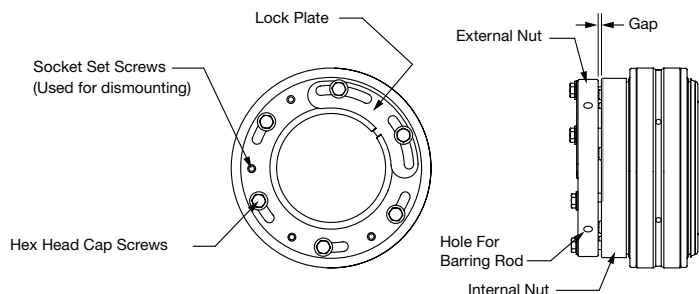

Figure 1 - Bearing with dual nut as shipped with gap.
The locknut assembly is comprised of an external nut and internal nut. The bearing is shipped such that there is a gap between the two nuts. The two nuts must maintain this gap prior to mounting the bearing. The dual nut configuration prior to installation is shown in Figure 1. Note the position of the external nut slots relative to the hex cap screws.
7. Remove two hex head cap screws nearest to the slot in the adapter. A slight gap may appear between the two nuts when these two hex head cap screws are removed. This is a normal occurrence and the gap will close up when the two hex head cap screws are reinstalled. Install the lock plate so that the tab fits into the adapter slot. If the lock plate does not line up with the two holes, it can be flipped over to fit as shown in Figure 1. Reinstall the two hex head cap screws to secure the lock plate and torque all of the hex head cap screws to the values shown in Table 1.